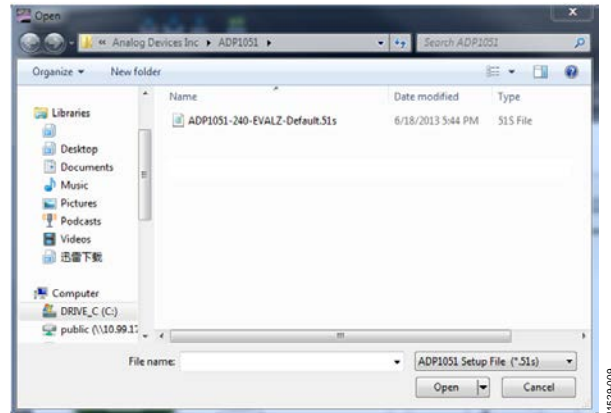
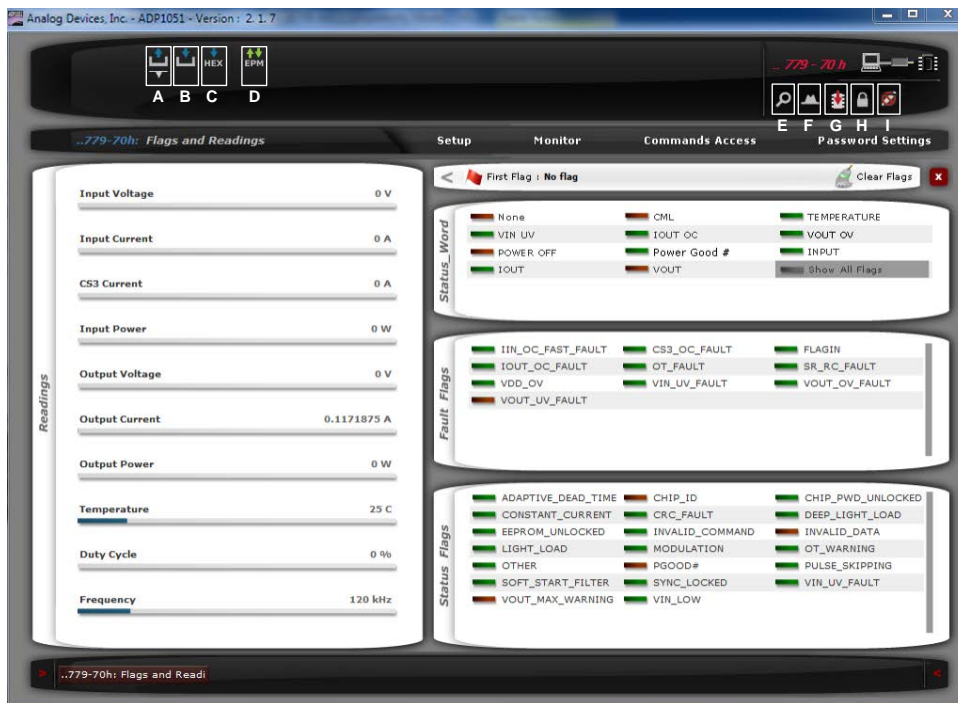
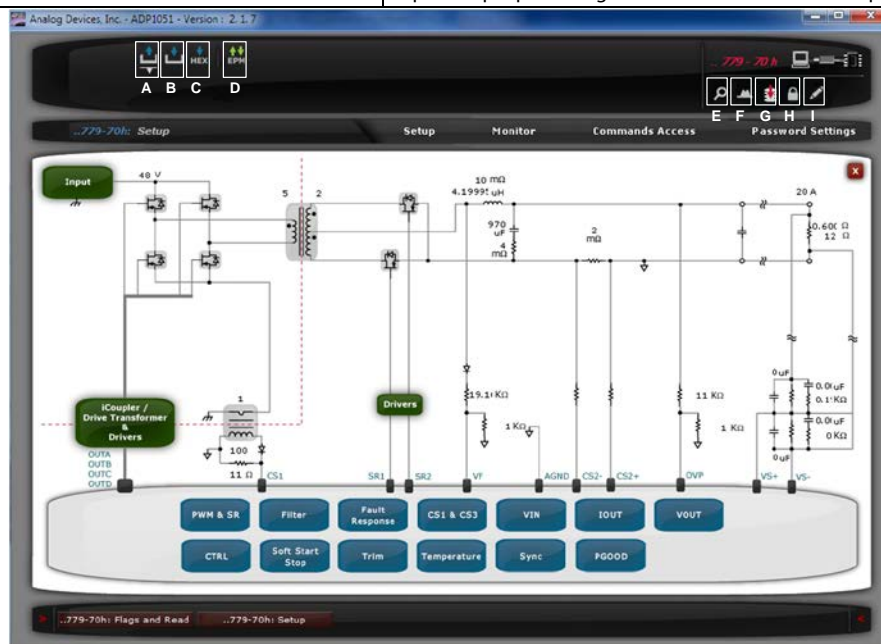

Figure 9. Load Board and Command Settings File
Figure 10. Monitor Window in the GUI
Figure 11. Main Setup Window of the ADP1051 GUI (See Also Table 8)
7. Click **Finish** to proceed to the **Monitor** window (see Figure 10).
8. Click **Unlock Chip Password** (Button I in Figure 10) and enter the chip password in the following pop-up window. The default chip password is 0xFFFF. Click **Enter** after keying in the password to process the **Setup** tab as shown in Figure 11.
If the user wants to load the default command and board settings file from a local folder, click **Load Command and Board settings from a '.51s' file to ADP1051** (Button A in Figure 11) and select the **ADP1051-240W-EVALZ-Default.51s** file when specifying the folder as shown in Figure 9. Because the **ADP1051** in the evaluation kit is preprogrammed with the board and command settings, this step is optional.
After completing the programming of **ADP1051**, click **Program command and board settings into EEPROM** (Button G in Figure 11) to program the command and board settings into the EEPROM once the user wants to save the settings in the device.
Moreover, the user can use the **Save Command and Board settings from ADP1051 to a .51s' file** button (Button B in Figure 11) to generate a .51s file for the command and board settings.
Figure 11 shows the main window. There are four tabs total in the main window: